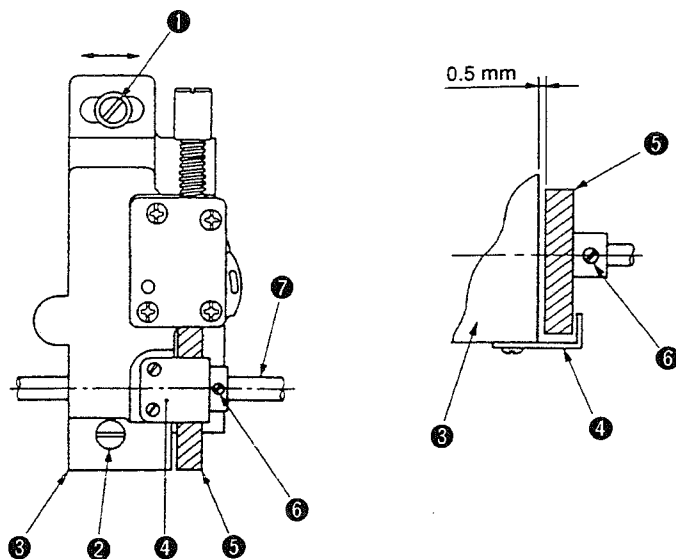
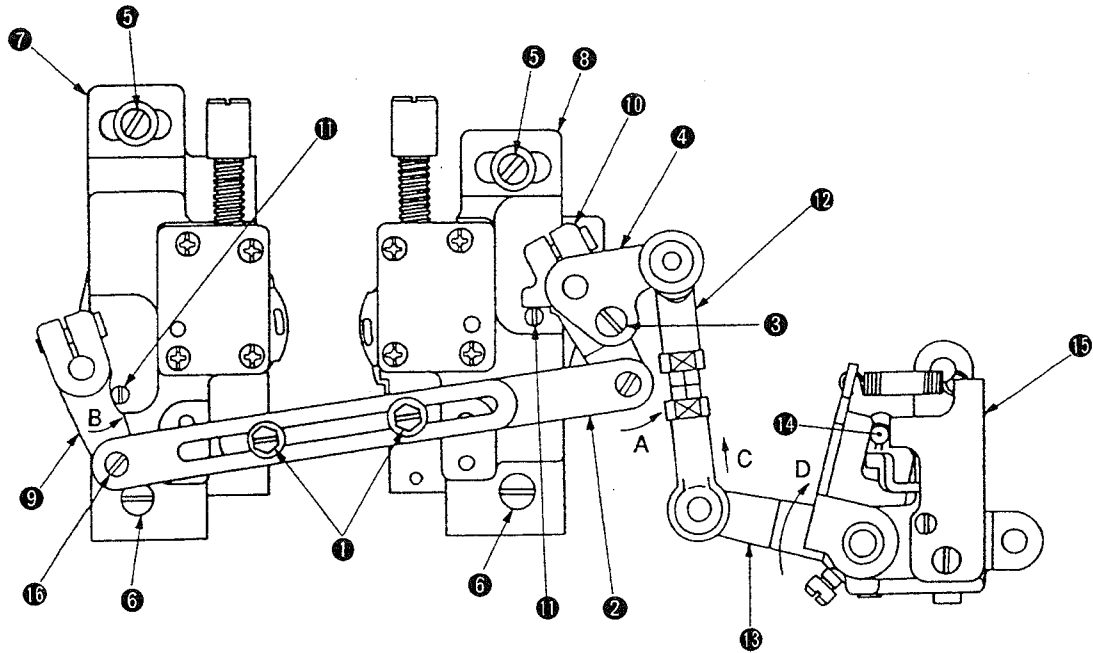

Fig. 24
Fig. 26
1. For the sewing machine with a thread trimmer, loosen hinge screw ⑩ in the connecting link in Fig. 26 on page 18.
2. Loosen screws ① and ② in the hook driving shaft saddle (Fig. 24) and two screws ⑥ in the hook driving screw gear. At this time, do not remove the screw No. 1 (retained in the flat section of hook driving shaft ⑦). Loosen the screw to such an extent that the screw No. 1 does not come off the flat section of the hook driving shaft when turning hook driving shaft screw gear ⑤ by hand.
4. Raise needle bar ⑨ from the lowest dead point of its stroke by dimension a. At this time, align the lower marker line engaged on needle bar ⑨ with the bottom end face of needle bar frame ⑩, and the lift of the needle bar will be 2.2 mm.
5. Move hook driving shaft saddle ③ to the right or left to adjust so that the specified clearance is provided between the needle and the blade point of the hook and the needle guard provides the specified effective amount. Then, tighten screws ① and ② to secure hook driving shaft saddle ③.
6. Adjust so that an approximately 0.5 mm clearance is provided between hook driving shaft screw gear ⑤ and hook driving shaft saddle ③. Then fix hook driving shaft screw gear ⑤ by tighten screws ⑥.
7. Attach connecting link (asm.) ② in position using hinge screw ⑩ as illustrated in Fig. 26 on page 18.